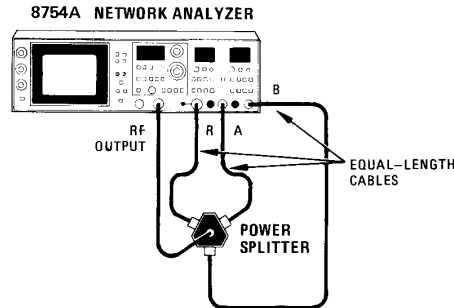

Figure 4-16. Ratio Magnitude and Phase Frequency Response Test Setup
14. Connect equipment as shown in Figure 4-16. Set analyzer controls as follows: